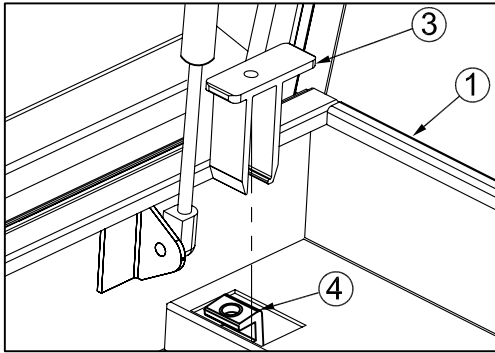

Fig. 5
6. Place J-hook receivers (#3) beside the J-hook (#4) in the rectangular openings in the toolbox. The larger tab on the receiver (#3) should be on the outboard side of the toolbox. (See Fig. 5)